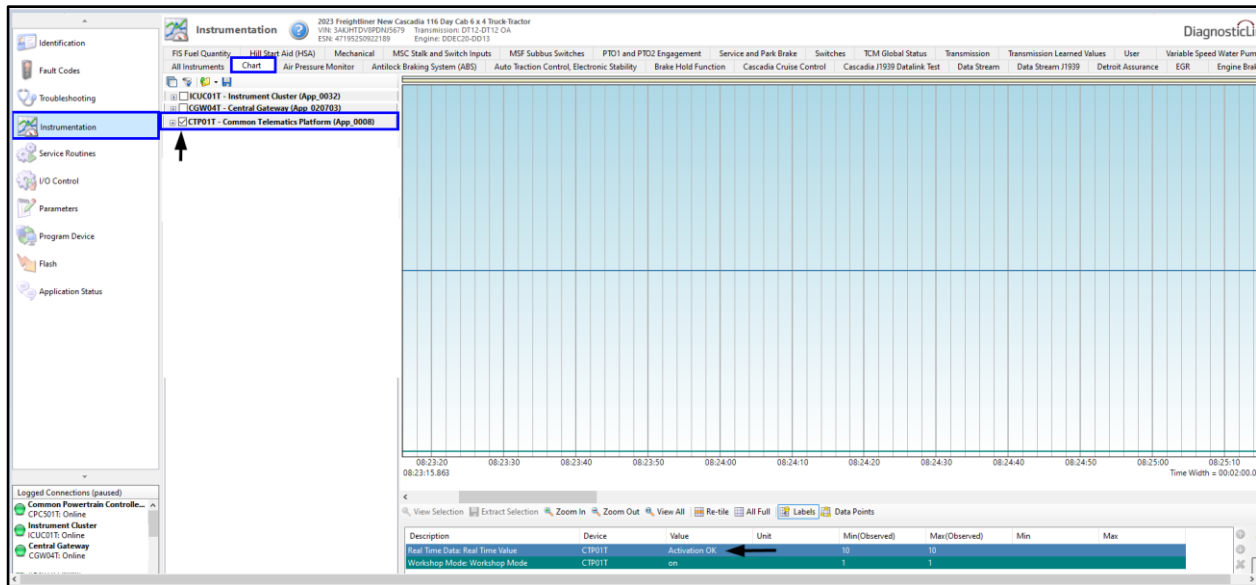

Fig. 18 Chart Tab with CTP Selected Showing Activation OK
31. Navigate to the 'Instrumentation' screen, and select the 'Chart' tab at the top of the page. See Fig. 18.
32. Take a screenshot of the instrumentation window 'Chart' tab, showing 'Activation OK.' See **Fig. 18**.